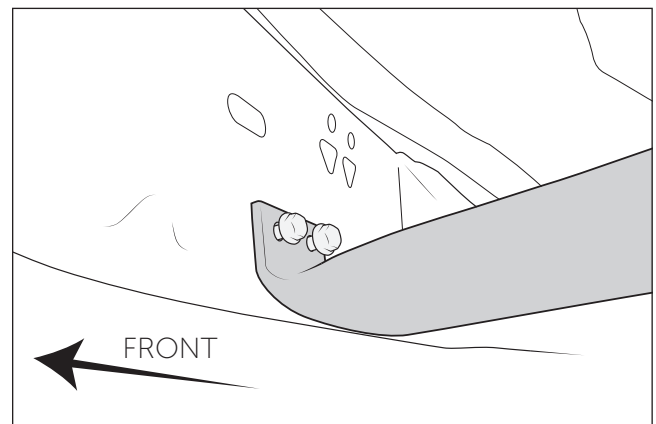

Figure 3
- 3. Loosely install two (2) M10 bolts through flanged side of skid (fig. 3).